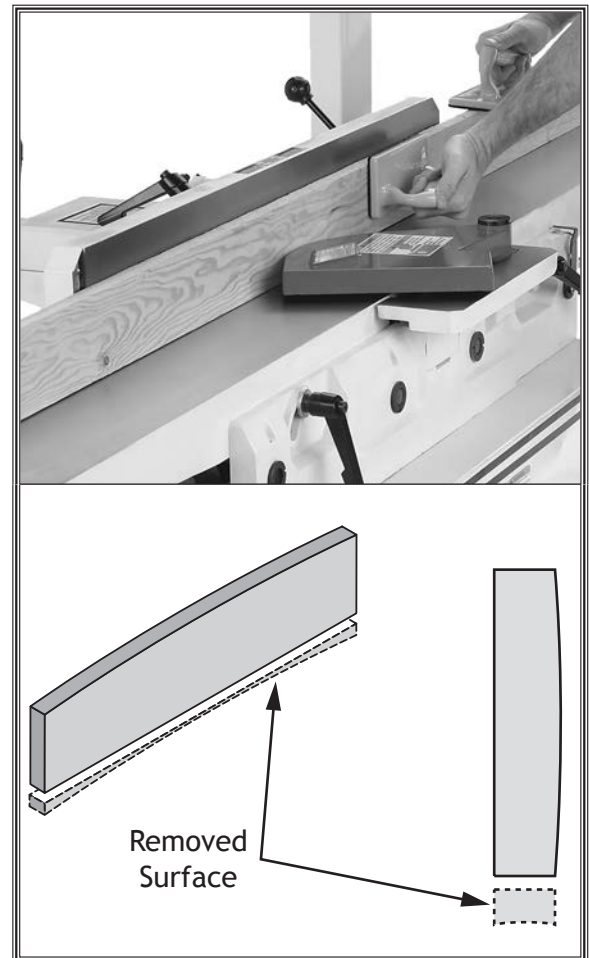

Figure 20. Example of a typical edge jointing operation.
Edge jointing (see **Figure 20**) produces a flat and true surface along the side of a workpiece by removing uneven areas. It is an essential step for squaring up warped or rough stock and when preparing a workpiece for joinery or finishing.
6. Place workpiece firmly against fence and infeed table with concave side facing down, as shown in **Figure 20**.